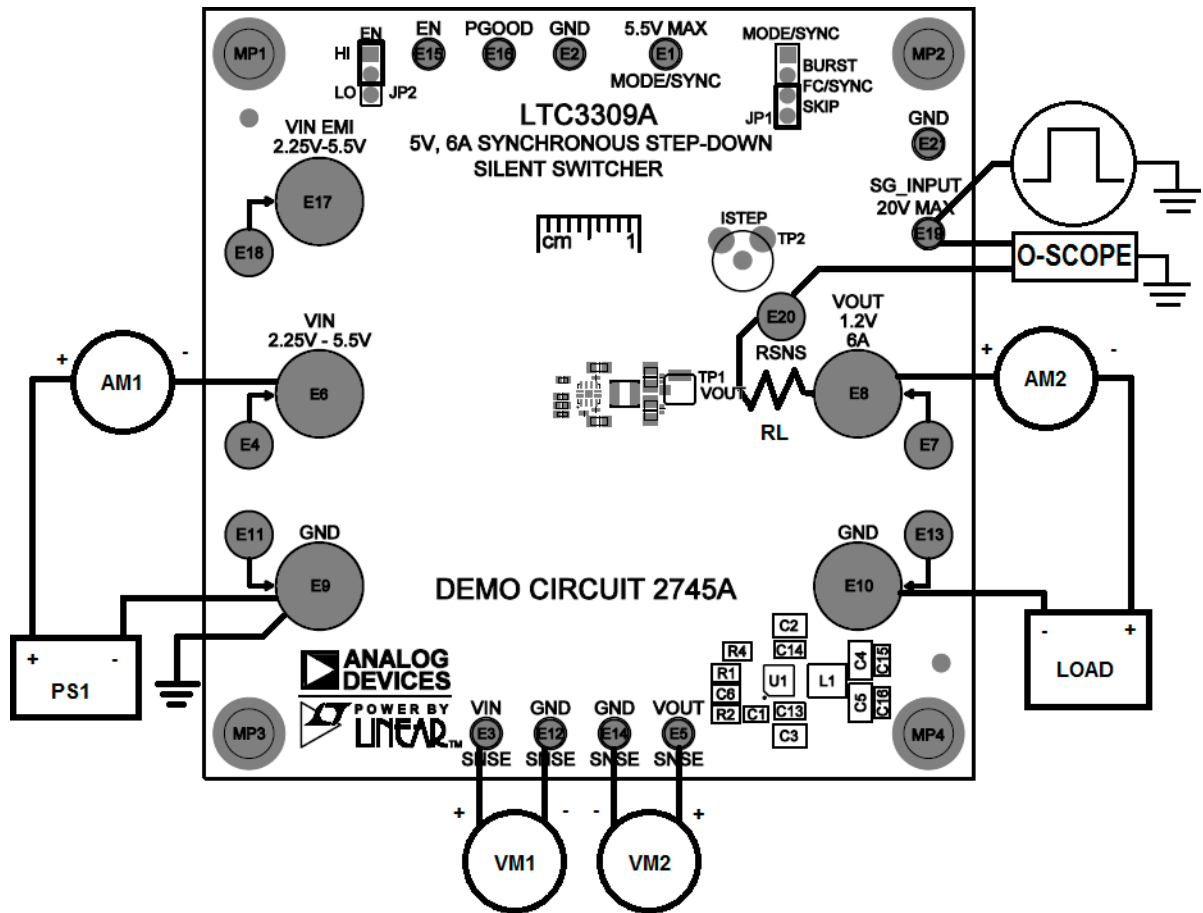

Figure 1. Test Setup for the DC2745A Demo Board
Demonstration circuit 2745A is easy to set up and use to evaluate the performance of the LTC3309A. Refer to Figure 1 for proper measurement equipment setup and follow the procedure below:
NOTE: For accurate  $V_{IN}$ ,  $V_{OUT}$  and efficiency measurements, measure  $V_{IN}$  at the VIN SNSE and GND SNSE turrets and  $V_{OUT}$  at the  $V_{OUT}$  SNSE and GND SNSE turrets as illustrated as VM1 and VM2 in Figure 1. When measuring the input or output voltage ripple, care must be taken to avoid a long ground lead on the oscilloscope probe.
13. To test the transient response with a base load, add the desired resistor to produce a minimum load between  $V_{OUT}$  and RSNS turrets (RL shown on Figure 1). Note that the total load resistance will be RL plus R11 (100m $\Omega$ ).